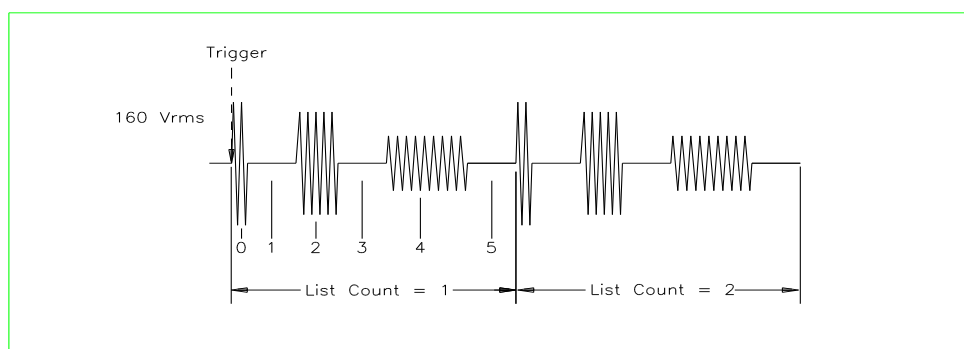

Figure 4-40: List Transients
13. Move the cursor to the END DELAY field and enter 0.067 for a interval delay of 67 ms. Notice that we effectively combined steps 0 and 1 from Figure 4-40 into a single list event.
21. Move the cursor to the START field and press the ENTER key. The transient program you just created will execute two times. If you have an oscilloscope connected to the output, you may be able to see the output voltage change per Figure 4-40.